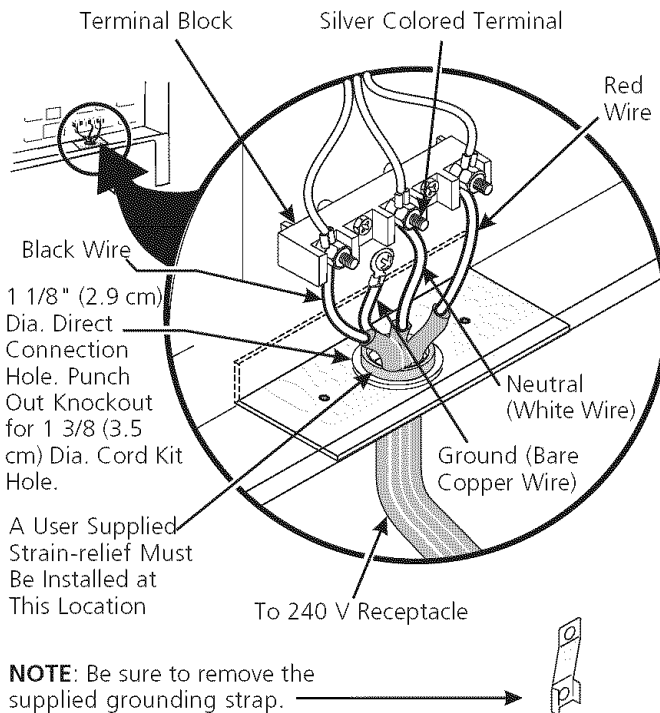

Figure 5
3. Using the nuts supplied with the literature package, connect the ground wire (green) of the copper power supply cord to the frame of the appliance with the ground screw, using the hole in the frame where the ground strap was removed (see Figure 5).
If the appliance is connected directly to the circuit breaker, fuse box or junction box, use flexible, armored or nonmetallic sheathed copper cable (with grounding wire). Supply a U.L. listed strain-relief at each end of the cable. At the appliance end, the cable goes through the Direct Connection Hole (see Figure 5) on the Cord Mounting Plate. Wire sizes (**copper wire only**) and connections must conform to the rating of the appliance.